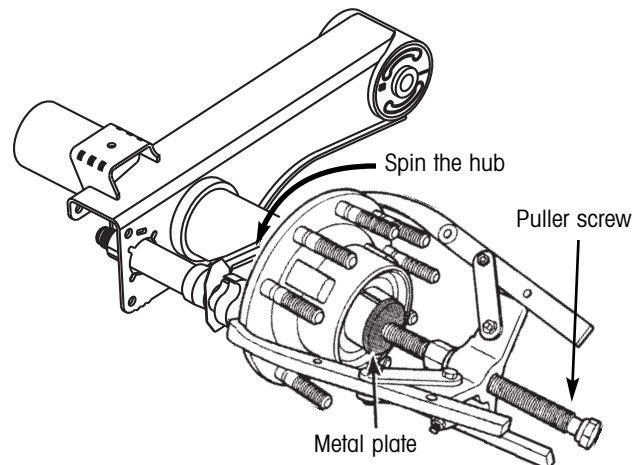

Figure 13. Removing the hub with a puller
- a. Install a metal plate between the puller screw and the end of the spindle (figure 13).
- b. While holding the puller screw stationary, spin the hub to remove it from the axle (figure 13).